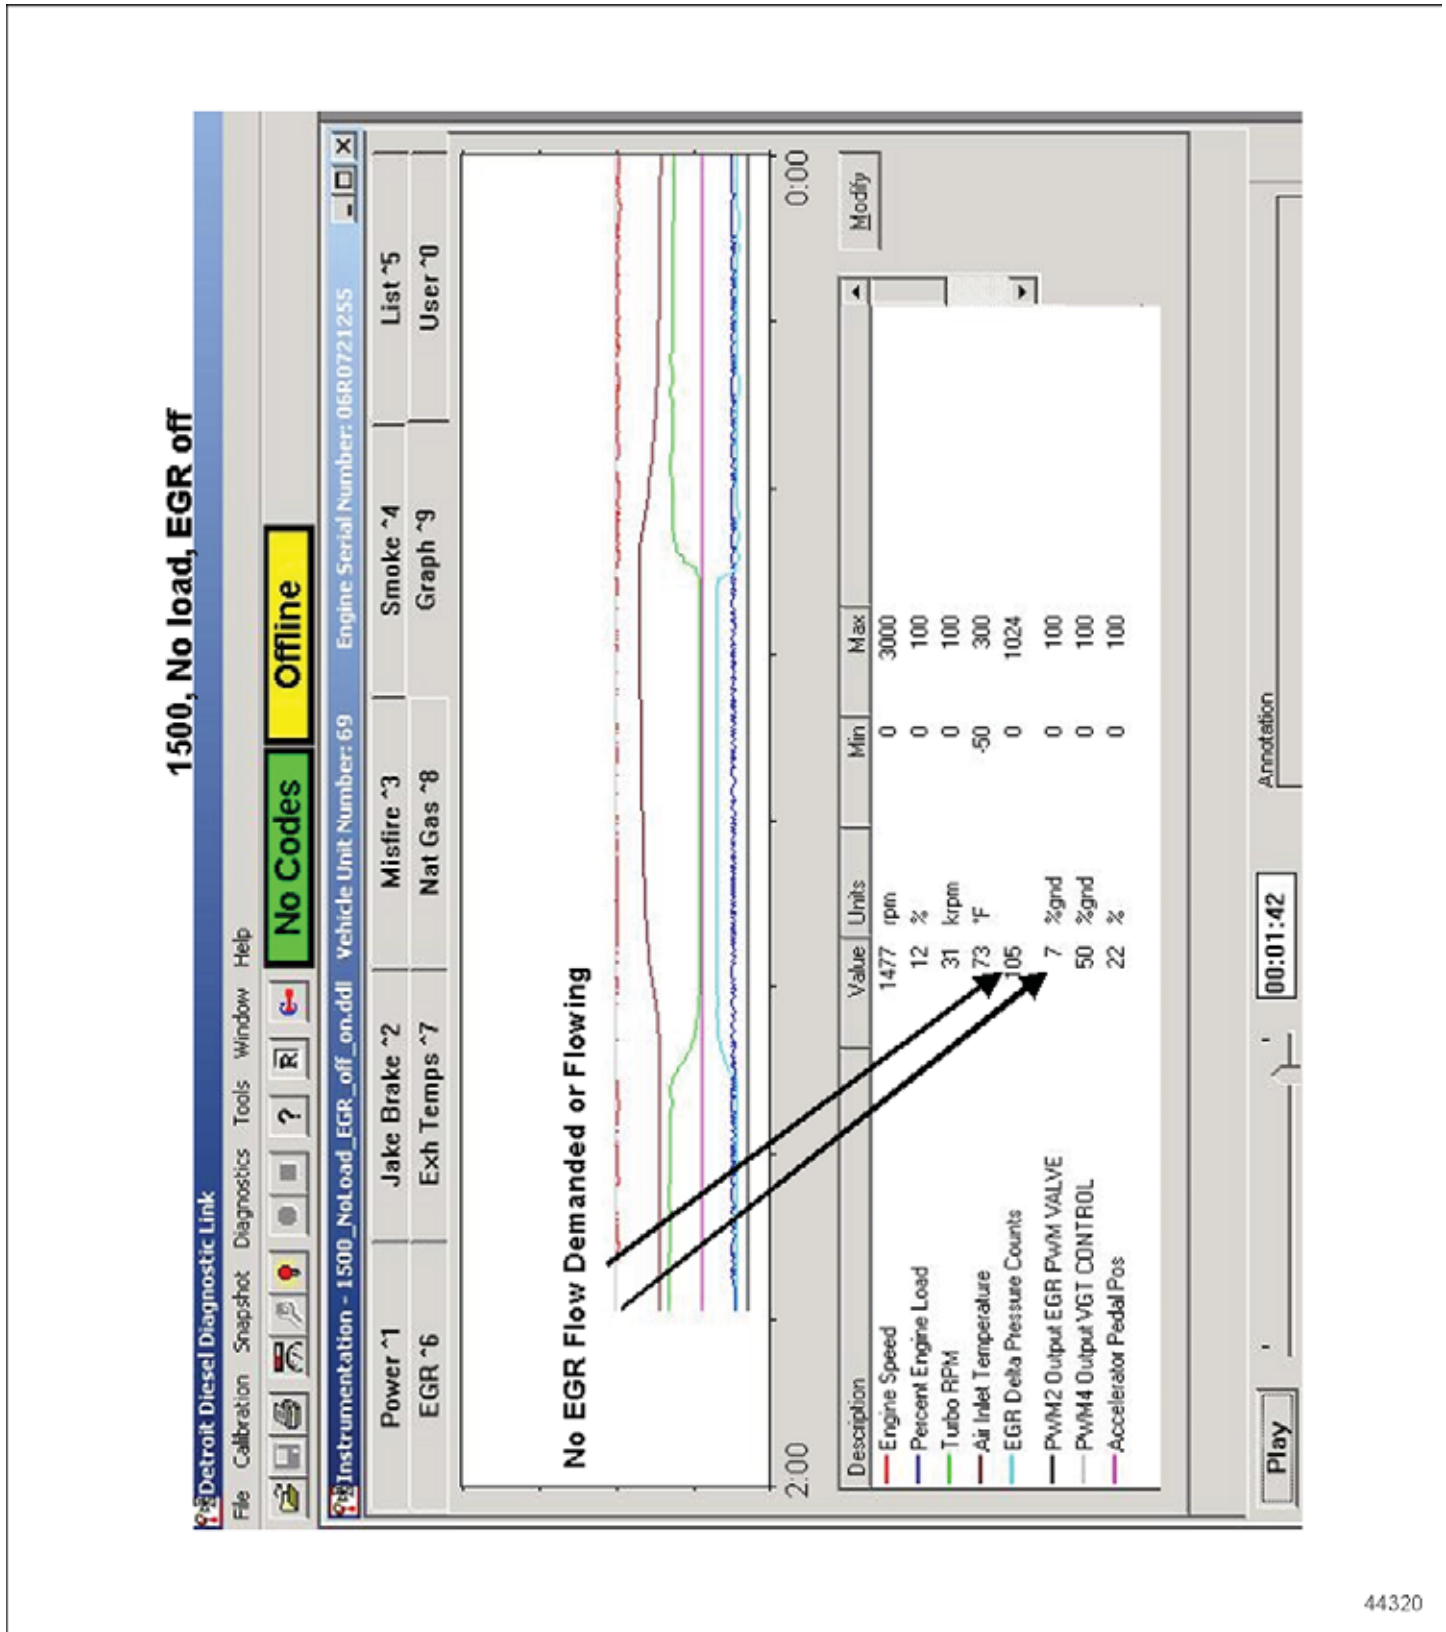

Figure 7-4 1500 — No Load — EGR Off
- 1500 rpm throttling no EGR. See Figure 7-4.